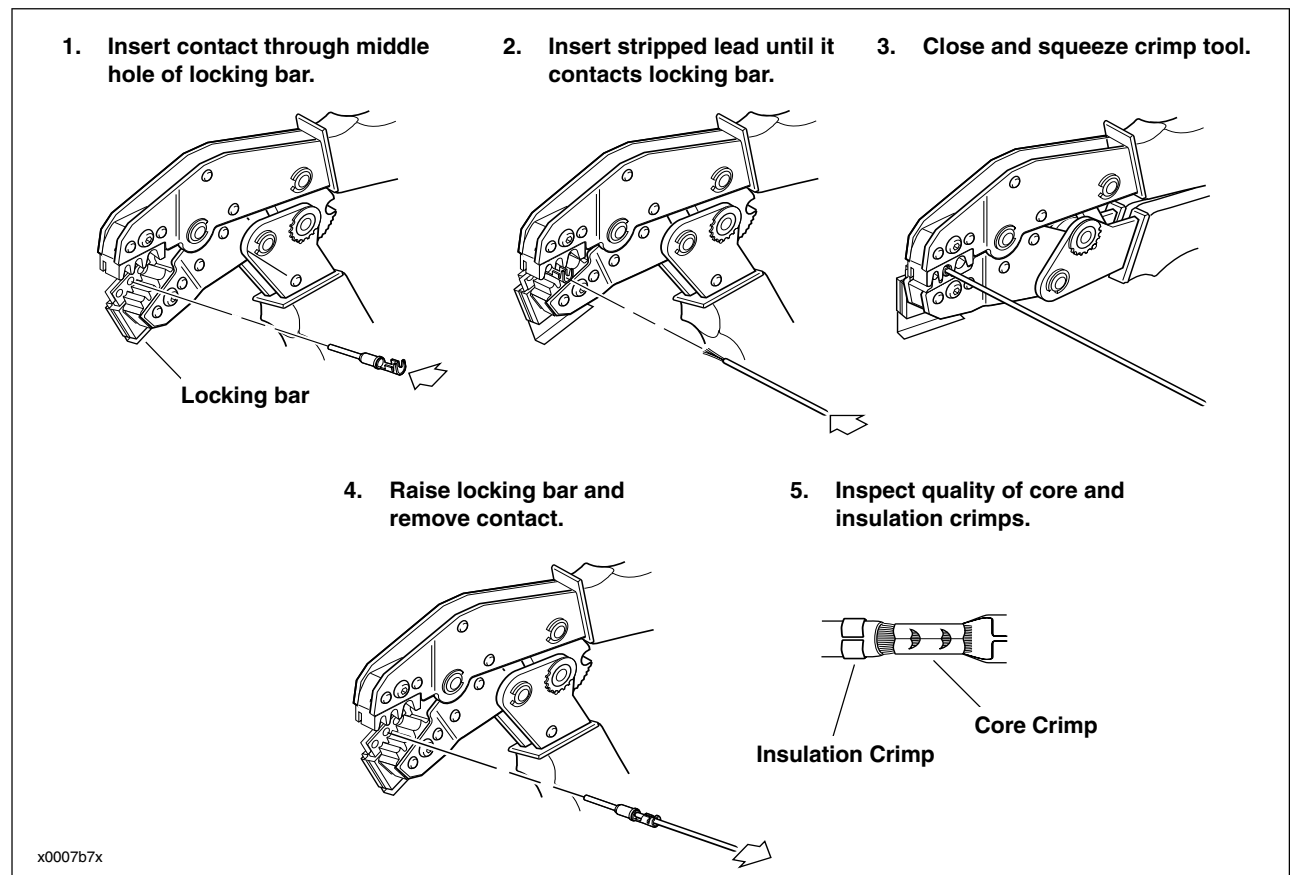

Figure 7-76. Deutsch Crimping Procedure
1. See Figure 7-76. Squeeze the handles to cycle the DEUTSCH TERMINAL CRIMP TOOL (Part No. HD-39965) to the fully open position.